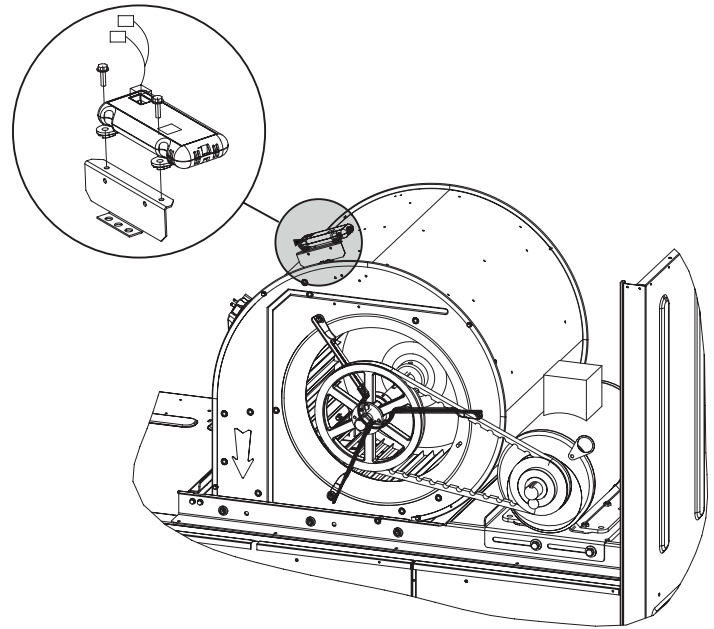

Figure 8 - Mixed Air Sensor
3. Mount the mixed air sensor to the sheet metal bracket. Then mount the bracket and sensor to the blower housing as shown in Fig. 8.